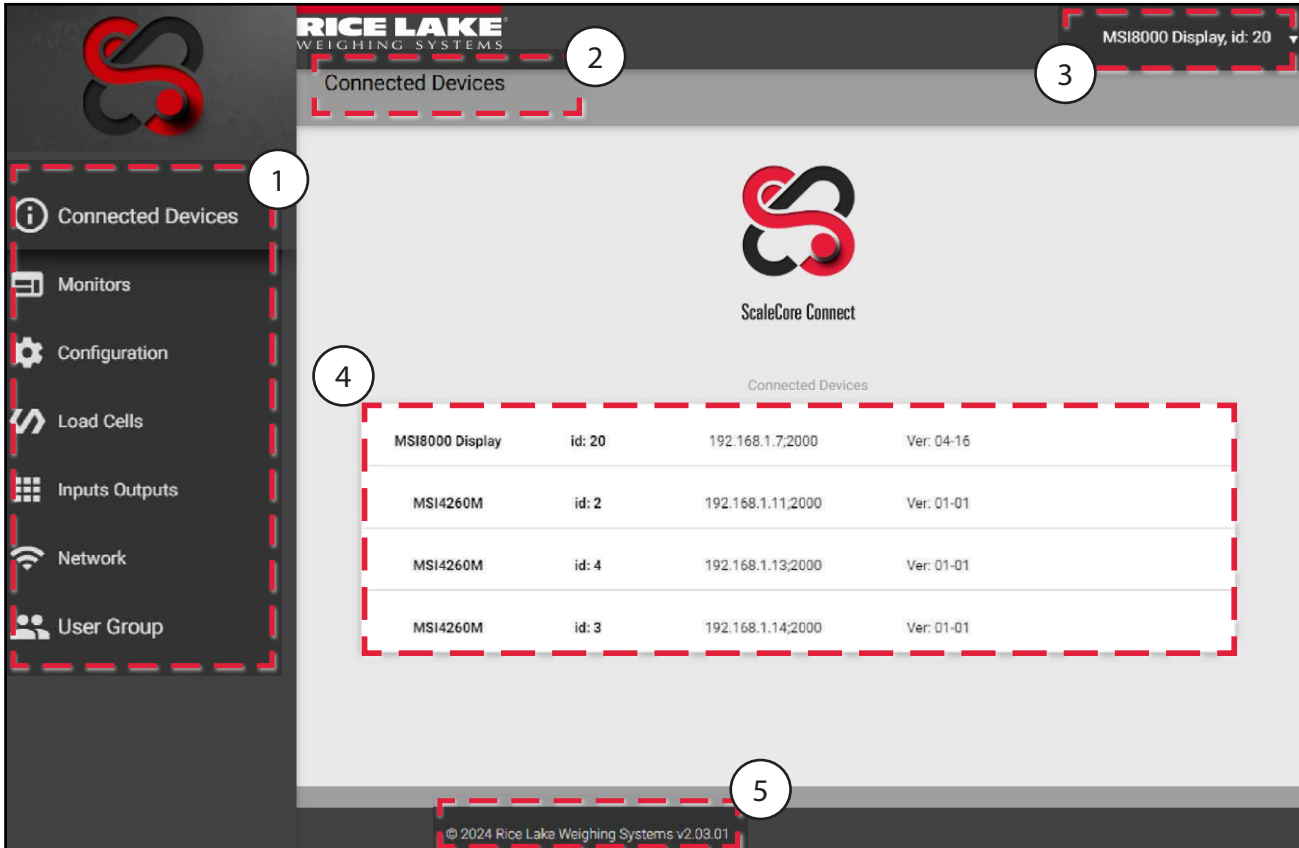

Figure 3-1. ScaleCore Webserver Interface
1. Select **Network** from the Scalecore Webserver Menu. (Figure 3-1 on page 15)
3. Click **SCAN**. ScaleCore Webserver may take several minutes to displays connected devices (Figure 3-1 on page 15).